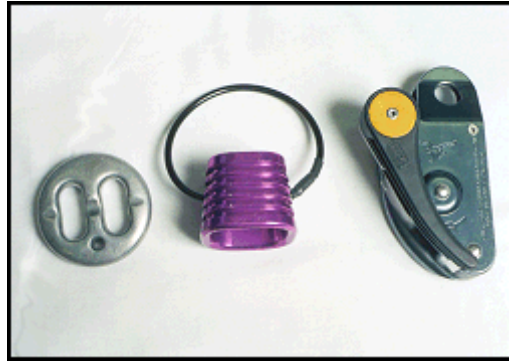

Figure 3-20. Slot, tuber, mechanical camming device.
i. **Belay Devices.** Belay devices range from the least equipment intensive (the body belay) to high-tech metal alloy pieces of equipment. Regardless of the belay device chosen, the basic principal remains the same—friction around or through the belay device controls the ropes' movement. Belay devices are divided into three categories: the slot, the tuber, and the mechanical camming device (Figure 3-20).
(1) The slot is a piece of equipment that attaches to a locking carabiner in the harness; a bight of rope slides through the slot and into the carabiner for the belay. The most common slot type belay device is the Sticht plate.
(2) The tuber is used exactly like the slot but its shape is more like a cone or tube.
(3) The mechanical camming device is a manufactured piece of equipment that attaches to the harness with a locking carabiner. The rope is routed through this device so that when force is applied the rope is cammed into a highly frictioned position.